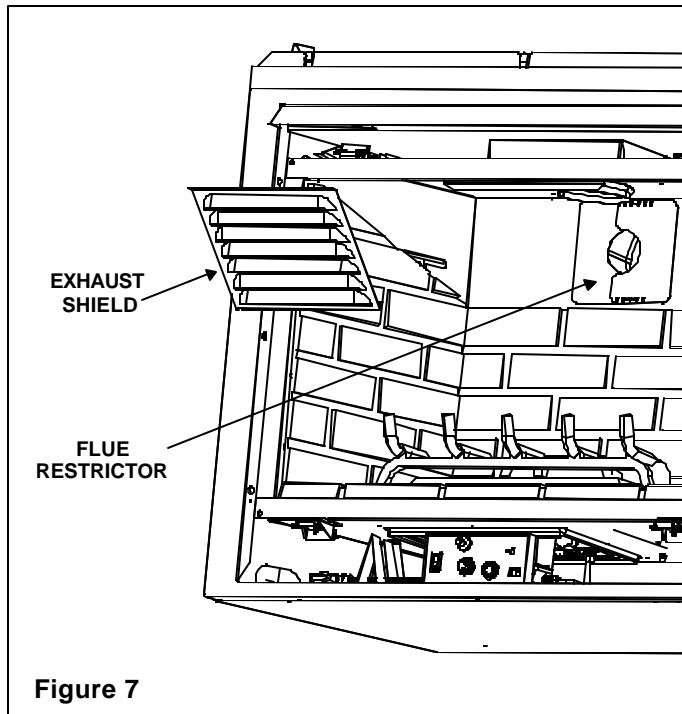

Figure 7
1. Remove Exhaust Shield using a 1/4" nut driver by removing the four screws securing it in place (see Figure 7).